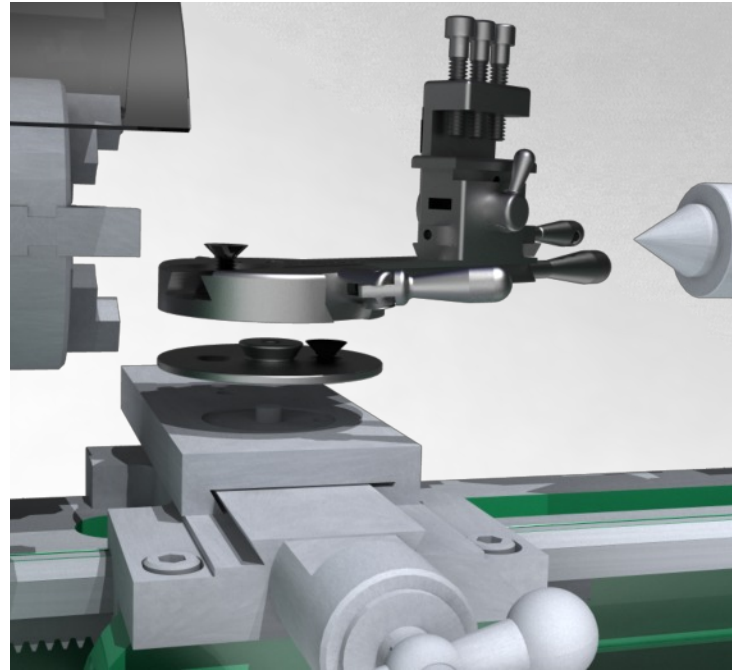

figure 6.
- **Other Install Notes:** Certain mini-lathes do not have a dedicated compound mount, and just have T-Slots on the cross-slide. T-slots are very versatile and will allow the dream cutter to be mounted any number of ways. We recommend using T-Nuts with 6M threaded holes to accommodate the included shear-able installation bolts. If your cross-side is significantly different from the represented in fig 6, determine if the base can accommodate new holes to meet your lathe. Contact Dream Cutter support for advice.